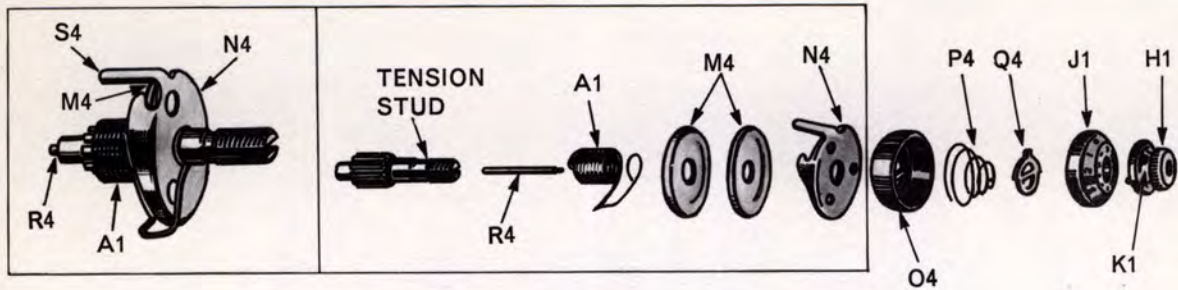

Fig. 20. Needle Thread Tension Assembly.
**REMOVAL:** (See Fig. 20).
1. Turn thumb H1 to left (anticlockwise) until "O" on numbered dial J1 stops at center line on indicator O4, Fig. 20.
**NOTE:** IT IS NOT NECESSARY TO REMOVE TENSION STUD FROM MACHINE. IT IS SHOWN REMOVED IN FIG. 20. TO ILLUSTRATE COMPLETE ASSEMBLY. SEE PAGE 9 FOR INSTRUCTIONS ON REMOVAL OF TENSION ASSEMBLY AS A UNIT.
1. Make certain that tension releasing pin R4 is in place as shown in insert, Fig. 20.
4. Align coils of spring with holes in discs and place this assembly on tension stud as shown in insert Fig. 20 Extension S4 of thread guard N4 enters hole provided in machine head.
5. Replace indicator O4, Fig. 20 with open side facing out and with plus (+) and minus (−) signs at top.
6. Hold these assembled parts against shoulder of stud and place tension spring P4, Fig. 20, so that the half coil at front is in the lower position, on tension stud.